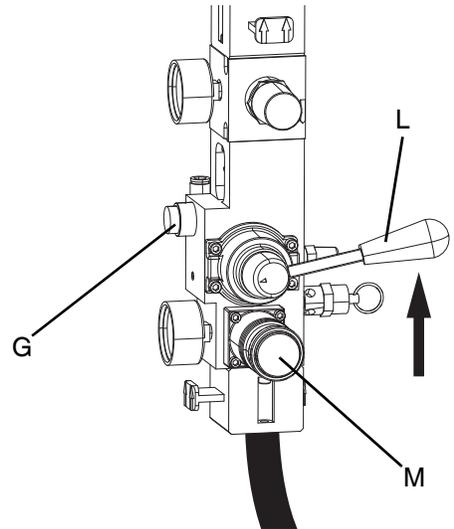

FIG. 9: Air Controls for Changing Pails
- Press and hold the blow-off button (G) on the air control until the platens (D) are completely out of the pails. See **Figure 9**.